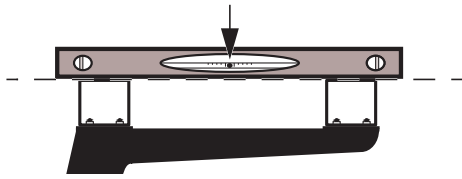

Figure 9. Side view of a level placed across front and back Beams above the left Leg
- 2 Starting at either end, place a level (not included) on the top of the Leg between the Beams, or across both Beams directly above the Leg as shown in Figure 9, and determine whether you need to raise or lower the back or front of the Leg.